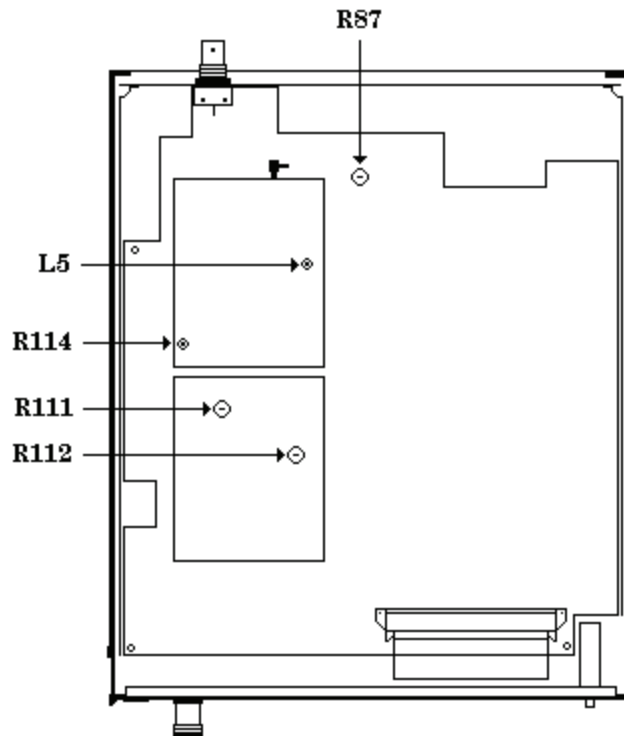

Figure 1. Adjustment locations - test instrument bottom view.
(4) Press **FUNCTION ZERO** key and wait approximately 15 seconds for **ZEROING: ******* display to disappear.
(5) Set range calibrator **FUNCTION CALIBRATE/STANDBY** switch to **CALIBRATE**.
- (6) Press **FUNCTION SHIFT** key then **FUNCTION CAL/ZERO** key.
- (7) Press **DATA ENTRY** \uparrow , \downarrow , \leftarrow , \rightarrow keys until **REF CF 100.0%** is displayed.
- (8) Press **DATA ENTRY ENTER** key. TI will display **CAL ******* for a few seconds.
- (9) Press **FUNCTION SHIFT** key then **FUNCTION CAL FAC/FREQ** key.
- (10) Press **DATA ENTRY** \uparrow , \downarrow , \leftarrow , \rightarrow keys until **CALFAC 100.0%** is displayed.
- (11) Press **DATA ENTRY ENTER** key.
- (12) Adjust R87 (fig. 1) for a maximum TI indication (R).
- (13) Set range calibrator **RANGE** switch to **10 mW**.
- (14) Adjust R111 (fig. 1) for a TI indication between 9.99 and 10.01 mW (R).
- (15) Set range calibrator **RANGE** switch to **100 mW**.
- (16) Adjust R112 (fig. 1) for a TI indication between 99.9 and 100.1 mW (R).
- (17) Repeat (13) through (16) above until no further adjustments are required.
(1) Adjust L5 (fig. 1) for a frequency counter indication between 49.5 and 50.5 MHz (R).
(1) Adjust R114 (fig. 1) slightly and repeat **11 a** above until calculated power reference oscillator output level is between 0.988 and 1.012 mW (R).